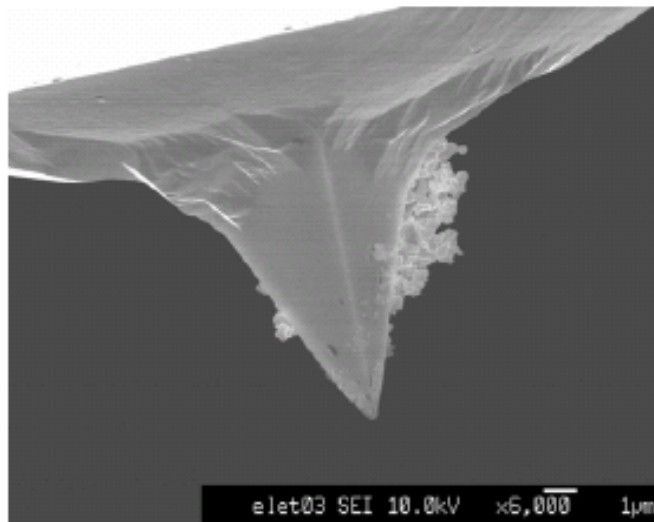

Fig. 1. FESEM image of a probe tip, after its use on a polystyrene latex sample. Note the large number of small particles adhering to the tip sides.
**Figure 1.** Three-dimensional views of the physical profile of the same SPM tip. **a:** As received by the tip maker. **b:** After intentional contamination with inorganic material. **c:** After cleaning with HF solution. The scale bars indicate the tip dimensions in all,  $x$ ,  $y$ , and  $z$ , directions.